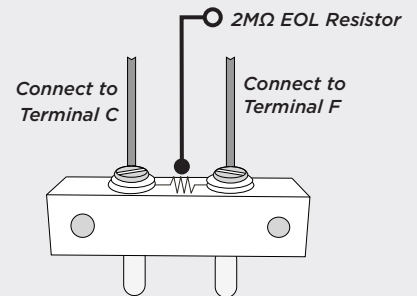

Figure 3: 470PB Water Sensor Probe
1. Connect a wire from the top of one of the sensor's probes to the F terminal on the 1115 PCB by running it through the wiring opening in the housing. See Figures 3 and 5.